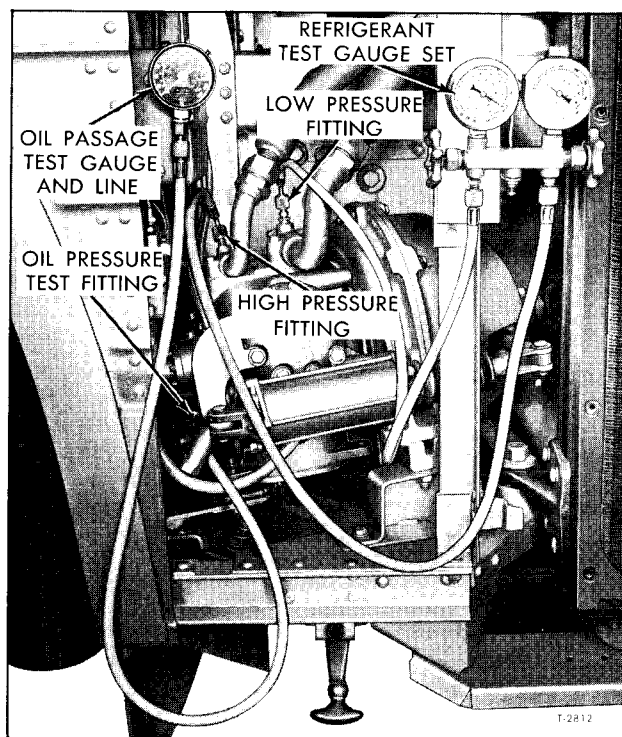

Figure 82—Checking Compressor Pump Pressure
1. Connect refrigerant test gauge to low pressure test gauge fitting (fig. 82). **NOTE:** For this particular check it is not necessary to connect the gauge set high pressure line to compressor discharge or high pressure fitting as shown.